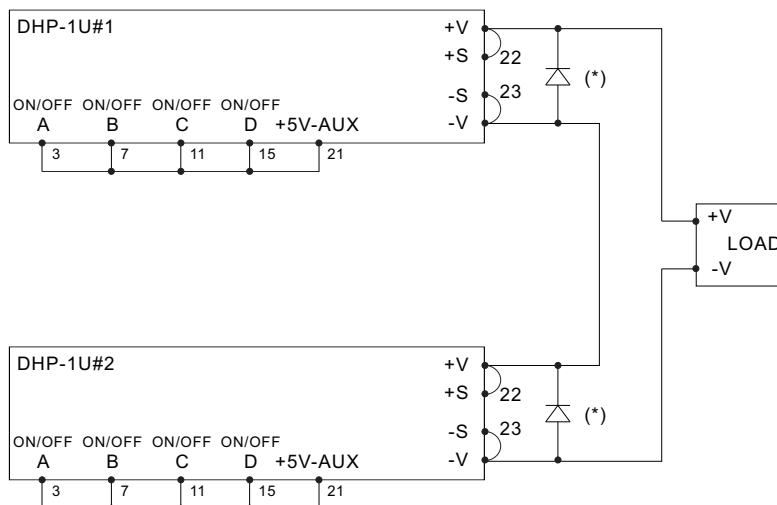

Figure 3-9 Configuration of rack shelf units in series
- ⊙ The rack shelves (DHP-1U□) connected in series should have the identical units. Please refer to Figure3-9 for wiring configuration.
- ⊙ It is suggested that add external diodes (\*) on the output, shown in Figure 3-9, to prevent reverse voltage. Rating of these diodes should be higher than the total amount of output voltage and current.